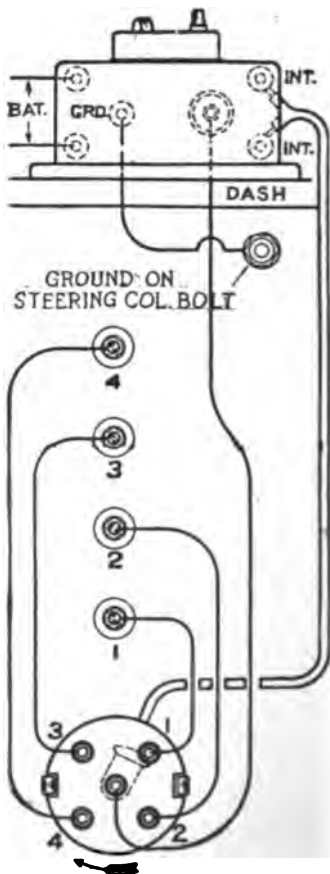

Fig. 135—Diagram of connections for Atwater Kent ignition system.
- 3—Note the direction in which the distributor block on the upper part of the distributor points and replace the cover. The terminal to which it points will connect to the spark plug in cylinder No. 1 and the spark will be timed to occur exactly on center. The diagram in Fig. 135 shows the relation of the distributor terminals to the spark plugs and in applying this to your installation the distributor terminal to which the distributor block points always will be No. 1 and will connect to cylinder No. 1. The other terminals will connect to the remainder of the spark plugs in accordance with the order of firing of the Ford engine, which is 1-2-4-3, the other distributor terminals connecting to these plugs in rotation.
Run the black primary cable, which is connected to the interrupter, up along the brace rod, fastening it thereto with a few turns of adhesive tape, and thence, through one of the holes left by the original coil wires, to the coil where the two wires are connected to the two binding posts at one end of the coil marked "INT," Fig. 135.